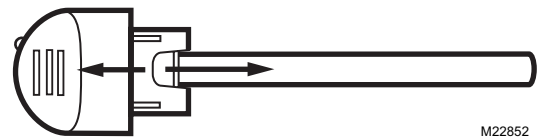

**Fig. 17. Snap bulb into place.**
- Rotate the lamp handle clockwise until it snaps into place with the lamp light indicator aligned with the raised button on the unit cover. See Fig. 17.
9. Rotate the lamp clockwise until it snaps into place with the lamp light indicator aligned with the raised button on the unit cover. See Fig. 17.